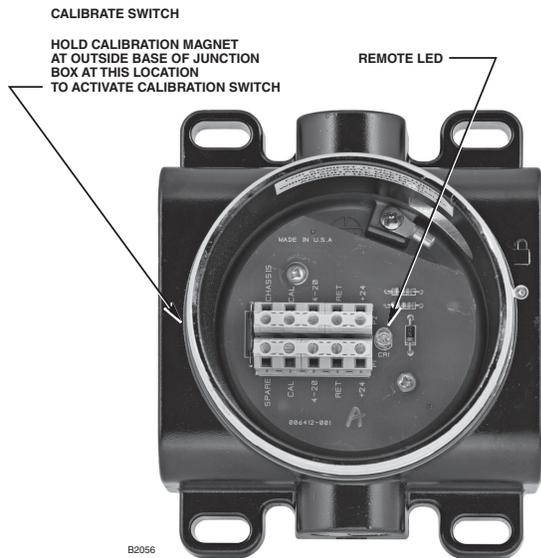

Figure 10—PIRTB Termination Box Terminals and Calibration Switch
Figure 10 shows the termination box terminals and calibration switch.
- *The calibration sequence is initiated by momentarily connecting the calibration lead to the negative lead (common) of the power supply using the Cal Magnet or an external switch. If the Det-Tronics PIRTB box with magnetic Cal Switch is being used, this is accomplished by holding the Cal Magnet near the side of the PIRTB box for one second. The location of the Cal Switch is shown in Figure 10.*